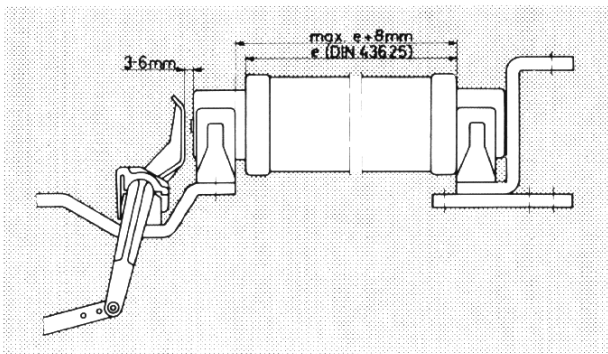

Fig. 5
- The split pin (7) is removed and the release shaft (1) together with the drive ring (2) is pushed in the direction of the arrow until the tapped connection is free from disc. (3).
- 2) The release rod (1) with the drive ring (2) is turned and adjusted to a hole in the disc (3), while the adjustment of the fuse trip flap (15) and its distance to the strike pin of the fuse link must be checked (Fig. 5.)